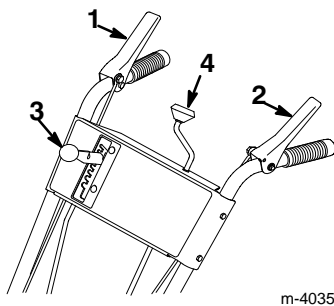

Figure 18
9. Operate the discharge chute control (Fig. 18) and move the worm gear slightly outward if the discharge chute control binds.
- **Auger/Impeller Control Lever** (Fig. 18)—To engage both the auger and the impeller, press the lever against the right handgrip. To disengage, release the lever.
- **Traction Control Lever** (Fig. 18)—To engage the traction (wheel drive), press the lever against the left handgrip. To stop traction, release the lever.
- **Speed Selector** (Fig. 18)—This control has five positions: two reverse and three forward speeds. To change speeds, move the speed selector to the desired position. The lever locks in a notch at each speed selection. The speed selector may shift with difficulty in heavy load conditions.
- **Discharge Chute Control** (Fig. 18)—Rotate the discharge chute control clockwise to move the discharge chute to the right and counterclockwise to move the chute to the left.
2. Ensure that the auger/impeller control lever and the traction control lever are in the Disengaged position (Fig. 18).
10. Move the speed selector (Fig. 18) to first gear, squeeze the traction control lever to the handgrip, and then release the traction control lever. If the snowthrower moves forward before engaging traction control lever or after releasing lever, see *Adjusting the Traction Drive* on page 20.
1. Release the traction and the auger/impeller control levers (Fig. 18).